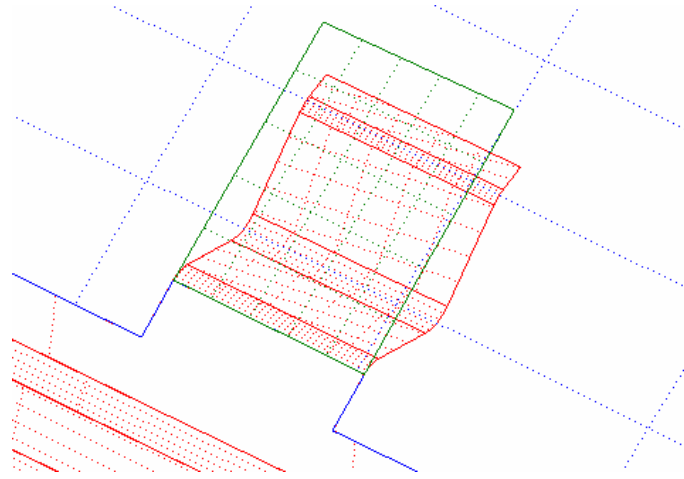

Figure 60 Unfold flange
12. The flange surfaces have been unfolded, as illustrated in Figure 60.